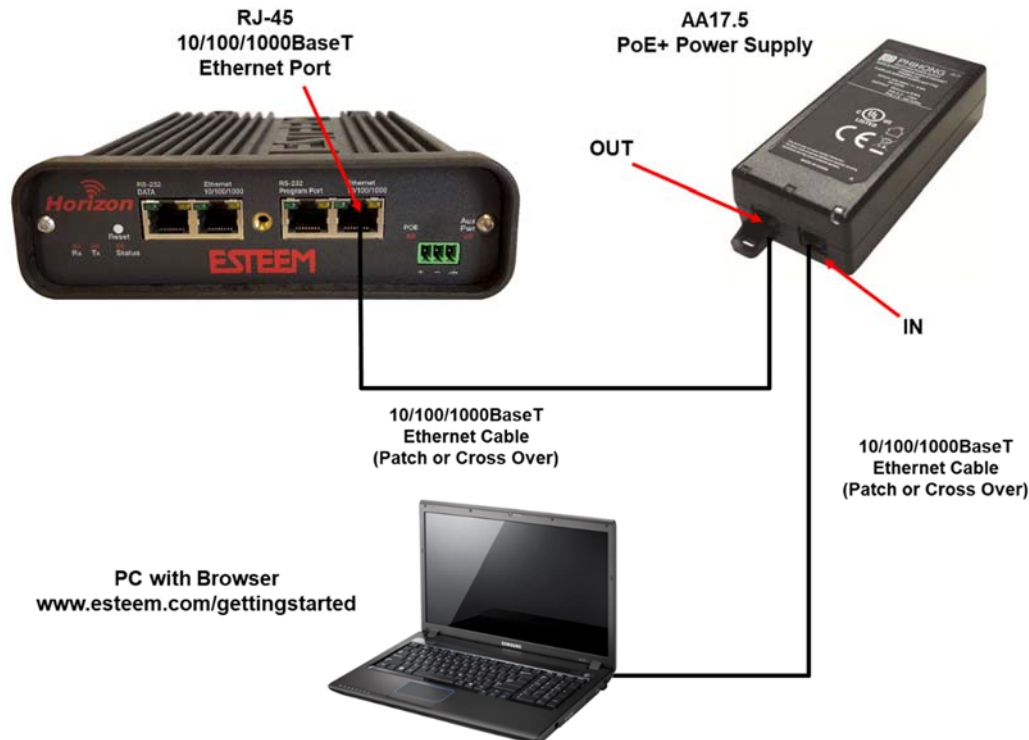

Figure 4: Hardware Configuration Diagram
2. Assemble the Horizon hardware as shown in Figure 4.